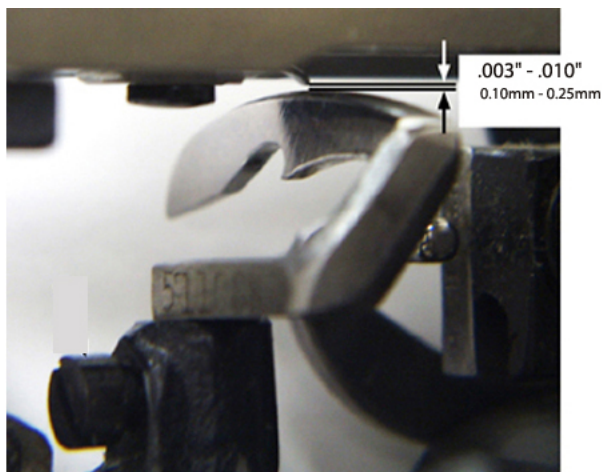
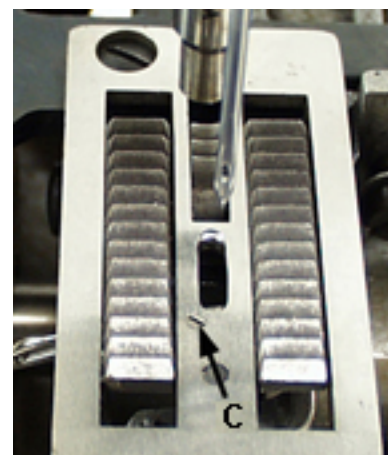

Fig 9A
Fig 9B
Attach the throat plate and looper/spreader to the machine. Turn the handwheel in operating direction until the looper moving to the right is directly under the tip of the retainer (Fig. 9A). Adjust the retainer tip up or down with screw (C, Fig 9B) so that there is .003" to .005" (0.10mm to 0.13mm) clearance between the top of the looper/spreader and the bottom tip of the retainer and then tighten screw (C).